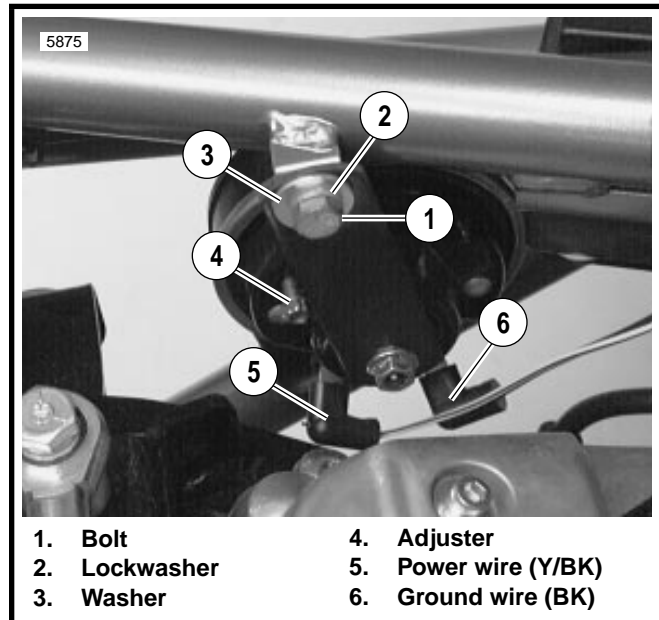

Figure 28. Horn Attachment
2. See Figure 28. Detach horn wires.
- a. Disconnect Y/BK power wire (5).
- b. Disconnect BK ground wire (6).
3. Remove bolt (1), lockwasher (2) and washer (3) to detach horn and bracket from frame.
1. See Figure 28. Attach horn assembly to frame using bolt (1), lockwasher (2) and washer (3).
- a. Attach Y/BK power wire (5).
- b. Attach BK ground wire (6).